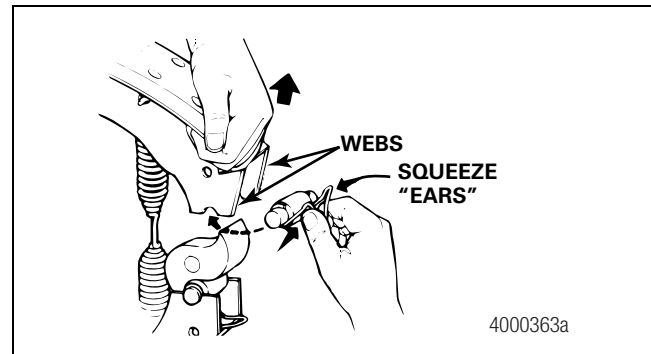

Figure 5.20
4. Pull each brake shoe away from the camshaft to enable you to install the brake shoe roller and roller retainer. Press the retainer ears to fit into the retainer between the brake shoe webs. Figure 5.20.